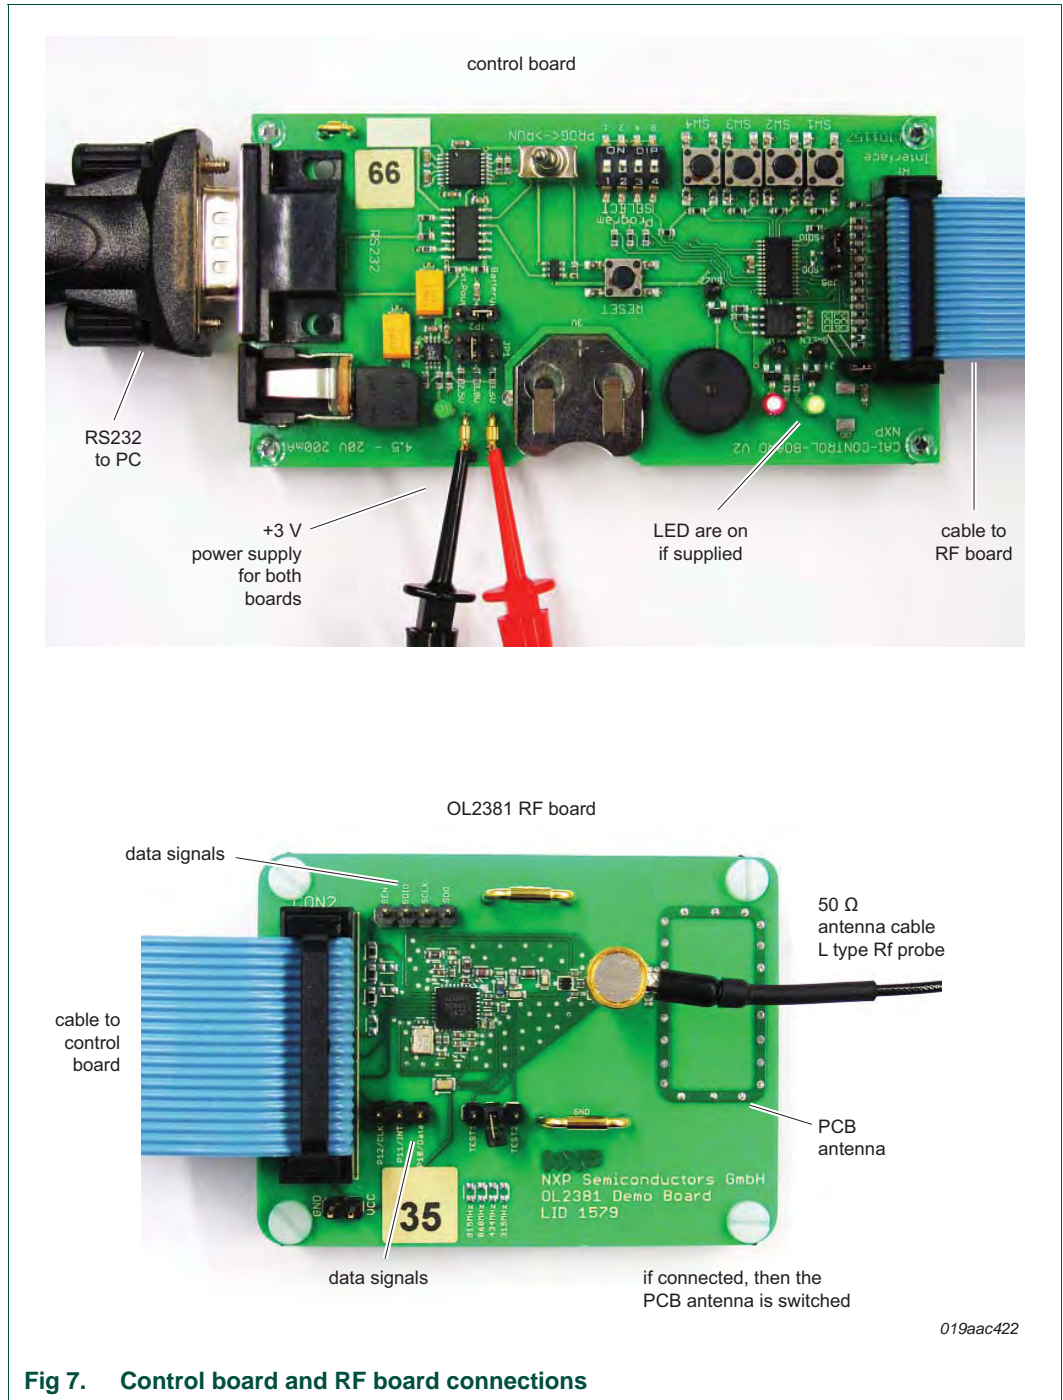

Fig 7. Control board and RF board connections
- Connect +3 V as shown in Figure 7
An overview of all connections is provided in Figure 7.